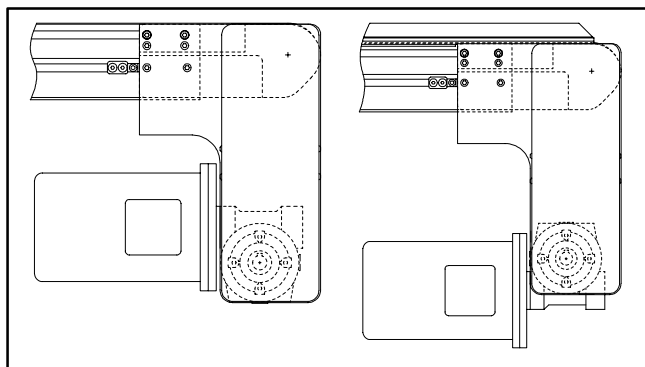

Figure 19
**NOTE:** Gearmotor position on Flat Belt conveyor shown, left on Figure 19. Gearmotor position on Cleated Belt conveyor shown, right on Figure 19.